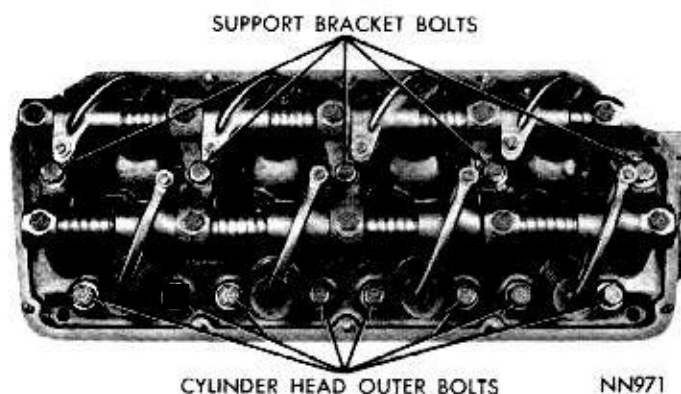

Fig. 3—Cylinder Head Attaching Bolts
Each chrome alloy cast iron cylinder head is held in place by 13 bolts (Fig. 3) and 5 studs, nuts and washers (Fig. 4). The stud nuts are tightened from inside of the tappet chamber. Aluminum spark plug tubes (shown in cross section in Figure 5) serves as spark plug gaskets. The tubes project through the cylinder head cover and are sealed against oil leaks.
- (1) With cylinder head cover removed, remove the five bolts, (3/4 inch hexagon) that attach the rocker arm support brackets to the cylinder head and block (Fig. 3).
- (2) Remove rocker arm assemblies.
- (3) Remove push rods and identify to insure installation in original location.
- (1) With cylinder head cover and rocker arm assemblies removed, remove alternator, disconnect accelerator cable and transmission throttle rod from upper bellcrank. Drain cooling system.
- (2) Disconnect fuel line at tee fitting.
- (3) Disconnect intake manifold heat tubes located at rear of manifold. Remove air tube between automatic choke and exhaust manifold.
- (4) Remove the intake manifold attaching screws. (There are three locating dowels at each end of manifold.)
- (5) Remove intake manifold with ignition coil, both carburetors, fuel lines, fuel filters, throttle linkage and upper bellcrank as an assembly.
- (6) Disconnect exhaust headers from cylinder heads and tie out of way.
- (7) Remove the lower eight cylinder head bolts (Fig. 3).